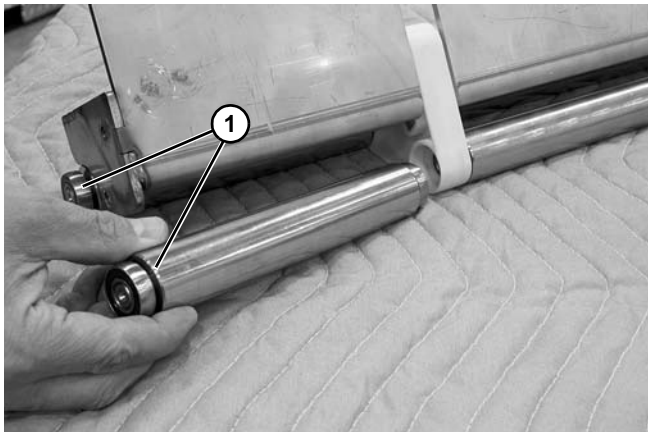

Figure 91
- Remove idler roller bearing assemblies (**Figure 91, item 1**) from nose bar puck.